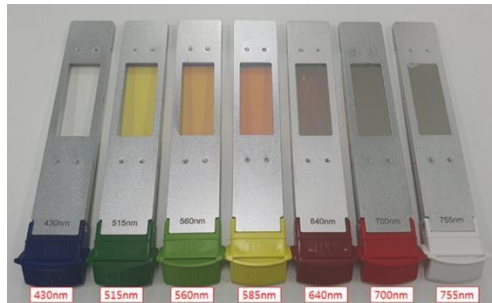

Figure 4.0-7: Darwin IPL handpiece filters
The Darwin IPL handpiece comes with a total of six (6) filters (Figure 4.0-7) - 430nm, 515nm, 560nm, 585nm, 640nm filters used in ST mode and the 700nm, 755nm filter is used in HR mode.